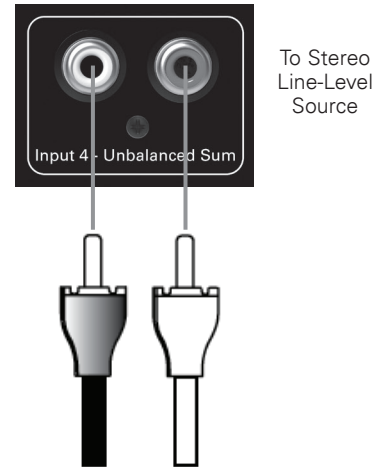

Figure 2.4
- Dual RCA Input Connector (other channels): For stereo music signals, unbalanced, summed together, two connectors per input (Figure 2.4).